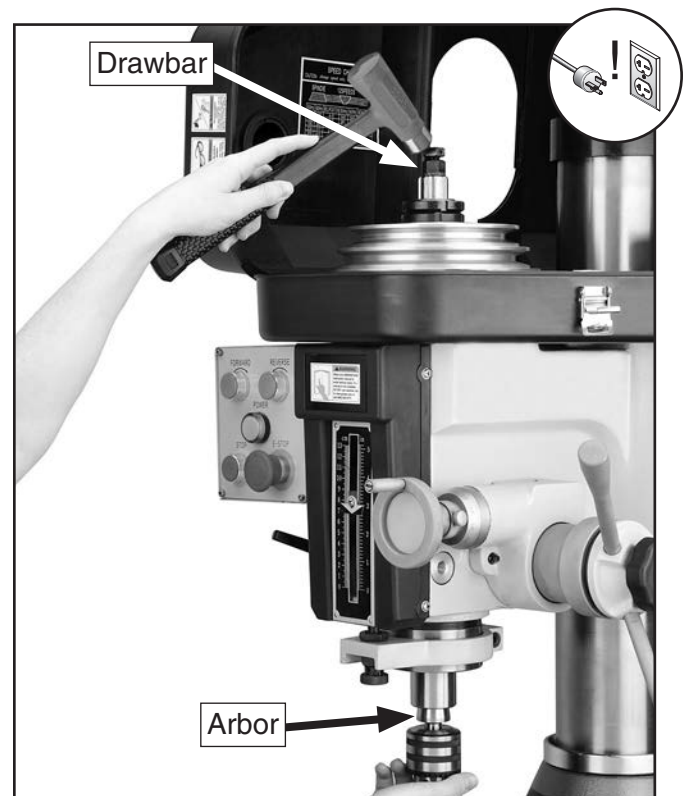

Figure 37. Collet removal.
3. Hold the tooling with a shop towel to prevent it from dropping completely out of the machine. Tap on the top of the drawbar with a brass hammer to loosen the collet/arbor from the spindle, as shown in **Figure 37**.